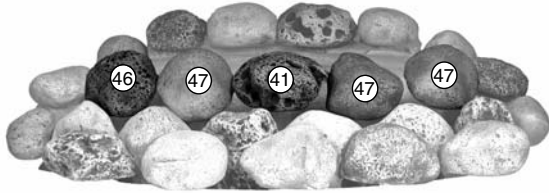

Fig. 28
6. Following Figs. 28 to 31, place the loose pebbles on to the fuel bed. It is important that the pebbles 'nest' together and sit on top of the fuel bed peaks.